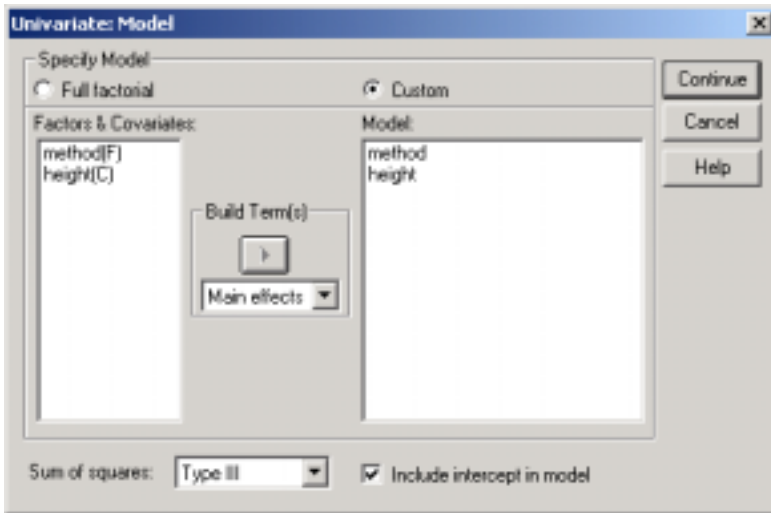

Figure 3. Model
- III. In the Model dialog box check **Custom** as in figure 3 and include the two variables as the Main effects terms, and click **Continue**.